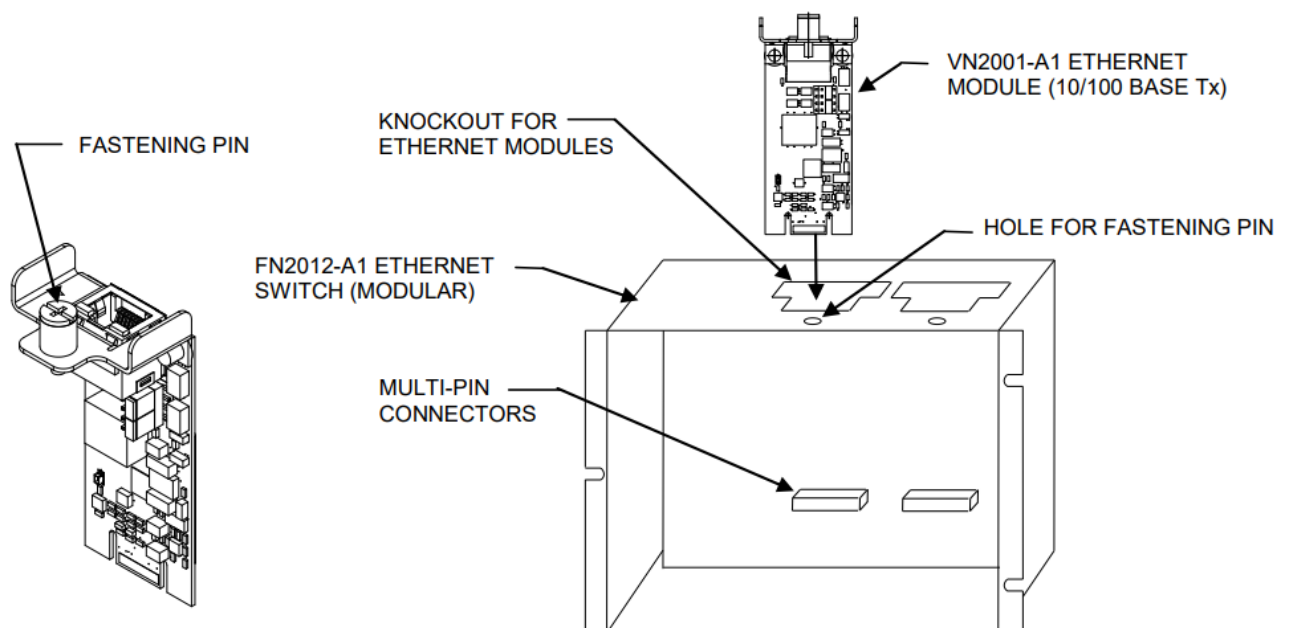

**Figure 5**
7. Insert the VN2001-A1 through the specified knockout opening on top of the VCA2002-A1 Card Cage and carefully press it into the multi-pin connector mounted on the VCC2001-A1 Voice CPU card. The multi-pin connector is located approximately 21/2" below the knockout opening, as illustrated in Figure 5. Install the second module for the other link in the same manner through the remaining knockout opening.
8. Tighten the fastening pin on the top of each module (see Figure 5) by turning it clockwise until the modules are firmly held in place by the Card Cage.